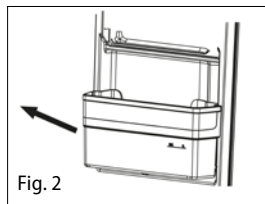

Fig. 2
- To remove the water dispenser tank, hold the tank with both hands and up and gently remove it. (Fig. 2)